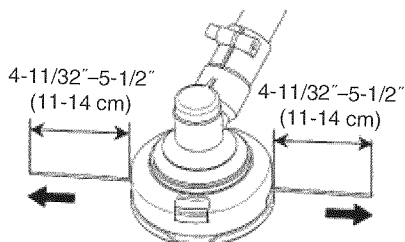

Fig. 34
- (7) The initial cutting line length should be approx. 4-11/32"–5-1/2" (11–14 cm) and should be equal on both sides. (Fig. 34)